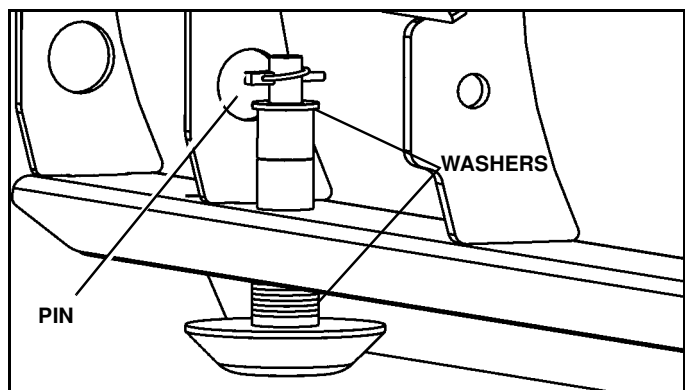

Figure 1-41
4. Adjust shoe assemblies by removing shoe mounting lynch pin and adding or subtracting washers on the top or bottom of the shoe-mounting bracket. (See Figure 1-41).